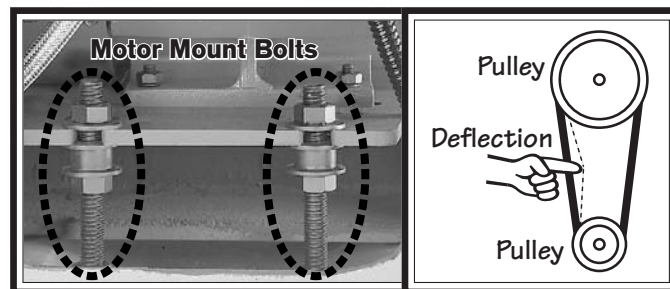

Figure 121. V-belt adjustment.
3. Adjust the hex nuts on the motor mount bolts shown in **Figure 121** to move the motor mount plate up or down and adjust the V-belt tension. When correctly tensioned, each belt should have about $\frac{3}{4}$ " deflection when pressed firmly (see **Figure 121**).